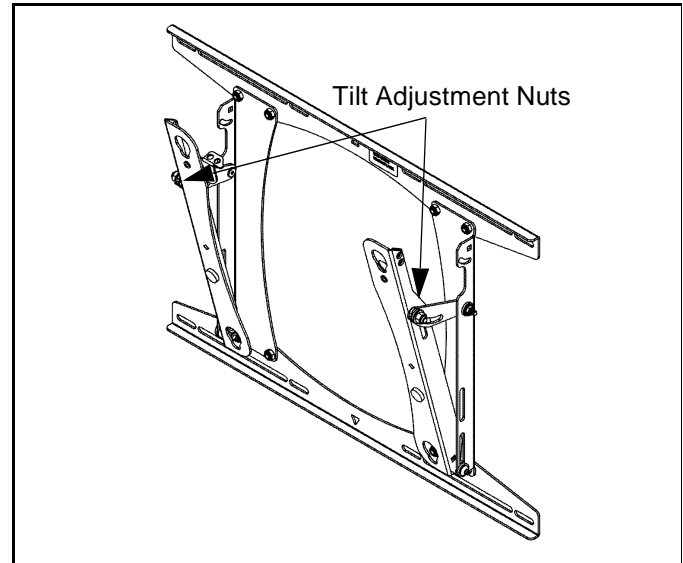

Figure 9
- Using 1/2" socket wrench, loosen the tilt adjustment nut on both arms of the mount (See Figure 9).